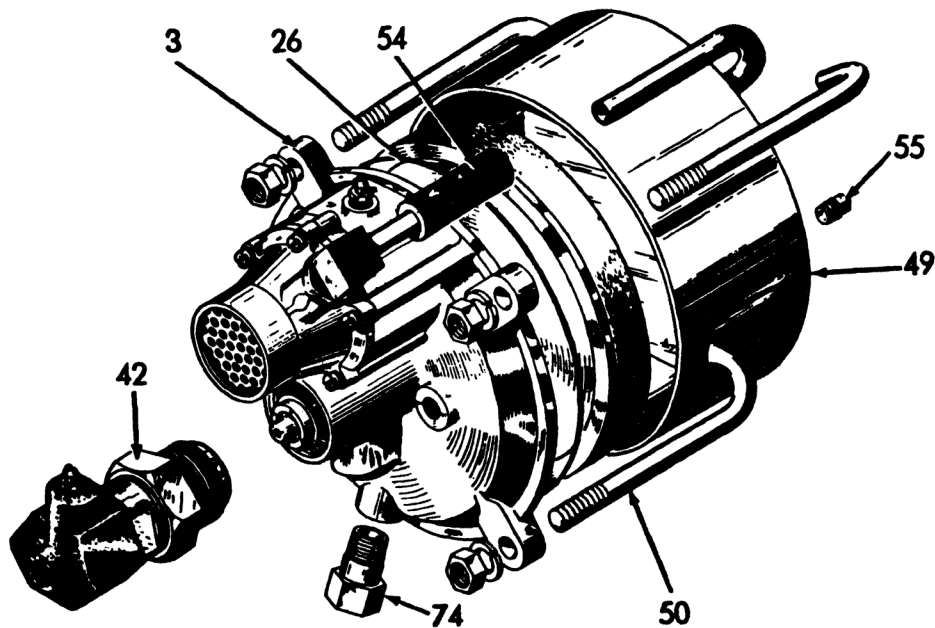

Fig. 7
1. As an aid for reassembly, scratch alignment marks between cylinder shell (49) and end plate (3). Slide hose connector (54) on control tube.
2. Loosen nuts of hook bolts (50) to disengage bolts from cylinder shell (49). (see fig. 7)
3. Remove cylinder shell (49) and gasket (26) from end plate. If shell sticks to end plate, tap shell with fibre mallet to loosen. Remove pipe plug (55) and remove hook bolts from end plate.
4. Loosen tube nut (42) and unscrew slave cylinder assembly from end plate.
5. Remove check valve (74).